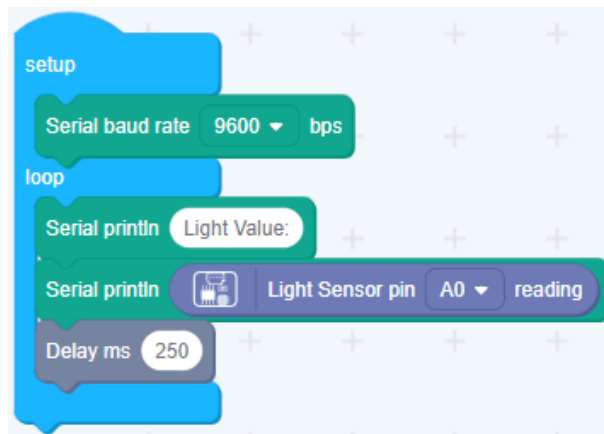

Figure 8.5: Codecraft Light Sensor Setup
11. Codecraft Setup (Figure 8.5).